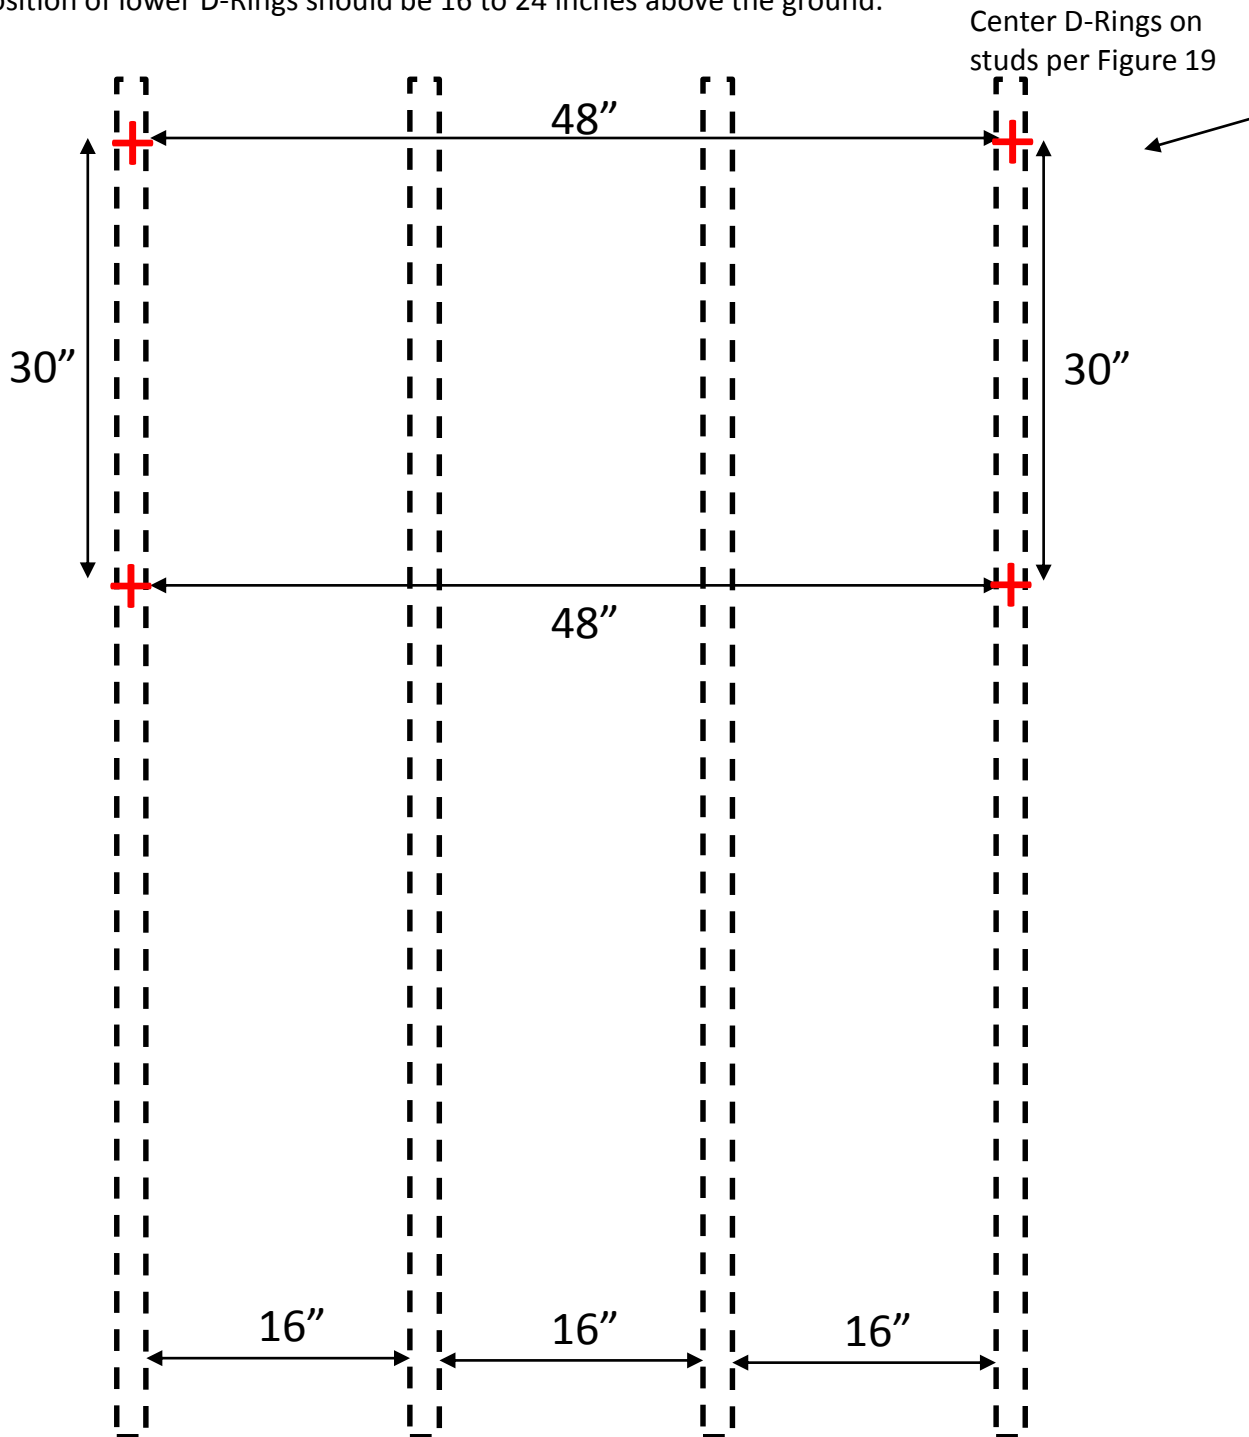

Figure 26
Step 1 – If mounting into 2X4 wood studs spaced 16" apart, referencing Figure 26 measurement specifications to mark the four D-Ring locations indicated by the red + symbols and associated measurements. **IMPORTANT WARNING** – It is the responsibility of the installer to ensure all mounting holes are centered exactly in the middle of each wood stud which may be hidden by dry wall. Most often this will be the 2 inch side of the 2X4. Standard wood stud spacing behind dry wall is 16 inches center to center. However, the installer must verify exact stud positioning and alter Figure 18 measurements accordingly so that D-Ring mounting holes are centered properly in the wood studs that have been certified to accept two ¼ X 3" lag screws for each D-Ring assembly and also certified to handle +/- 150 lb. point load at each D-Ring with maximum +/- 300 lb. load per stud. If you are mounting into a solid wood wall such as properly supported ¾" thick or thicker plywood you may use the D-Ring mounting & positioning specifications of Figures 1, 12 and 13.